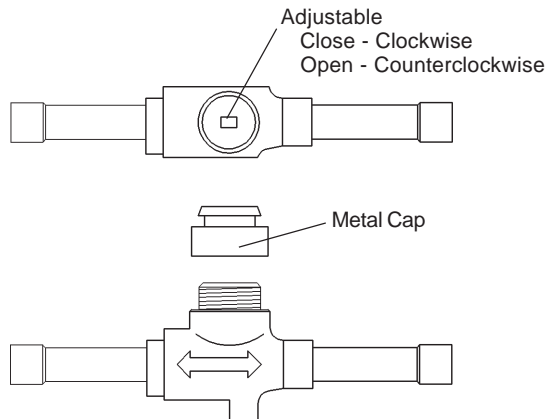

Fig. 6
- 10) Remove the Metal Cap from the Ball Valve, and open the valve. See Fig. 6.